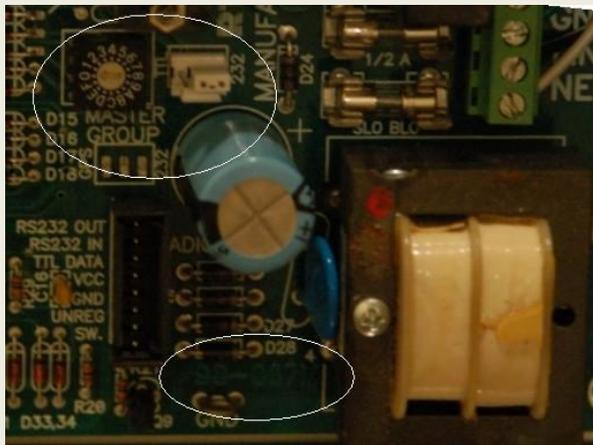

Fig. 2
2. Open the top of the time switch and check that the selector for RS232 and TTL is set to RS232. Notice in the picture below (Fig. 2) it is set up this way. The jumper is the white jumper seen to the right of the rotary switch in the upper left oval.